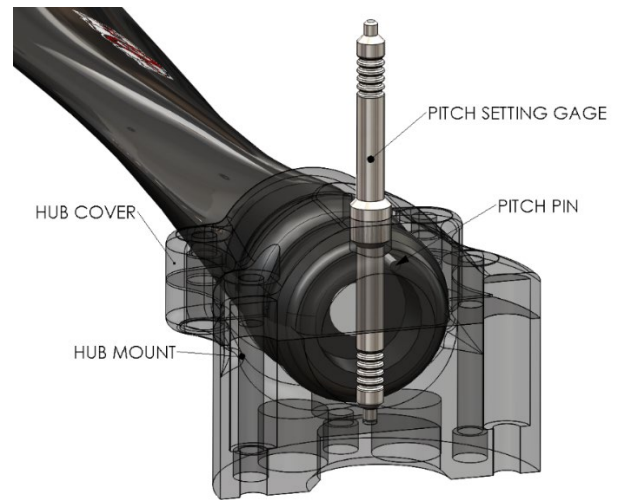

Figure 5: Pitch Setting Gage Detail
2. Insert the pitch setting gage through the clearance hole in the hub cover half and into the receiving hole in the hub mount half. See **Figure 5**. If desired pitch is unknown use the nominal setting of 4 to start. The pitch setting # indicates relative pitch; pitch 5 is higher pitch than pitch setting 4, etc...